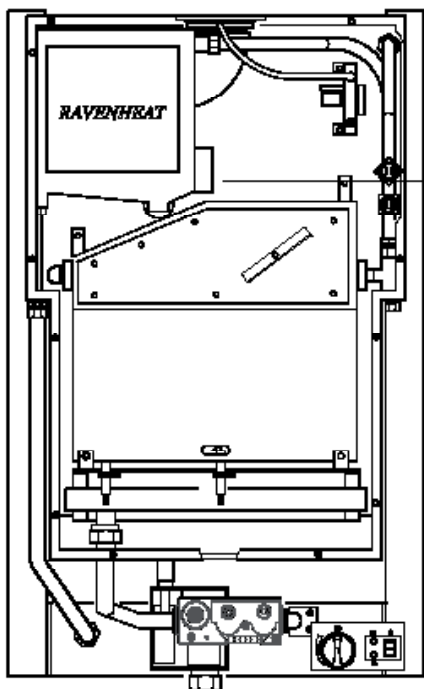

Fig. 54
**7.6 TO REMOVE/REPLACE THE FAN ASSEMBLY (Fig. 54)**